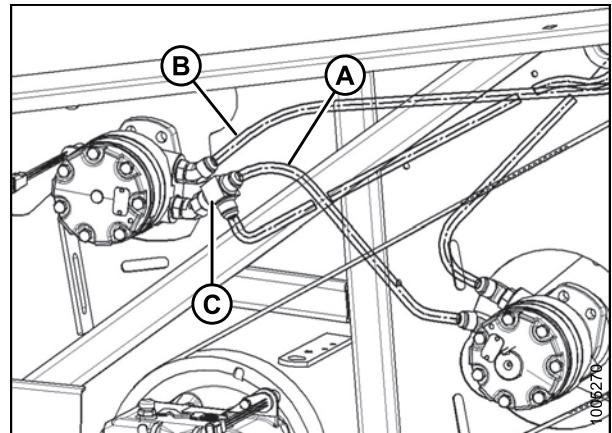

Figure 3.140: Early-Build 2015, 2014 and Earlier Factory Configuration (M150, M155, and M200)
1. Press screwdriver against latch in opening (A) and lift to open header left-hand driveshield. Shield will latch at (B) to stay open.
2. Check hose routing at the reel motor. The header is factory-configured for M150, M155, and M200 Windrowers as shown in Figure 3.140: *Early-Build 2015, 2014 and Earlier Factory Configuration (M150, M155, and M200), page 67.*